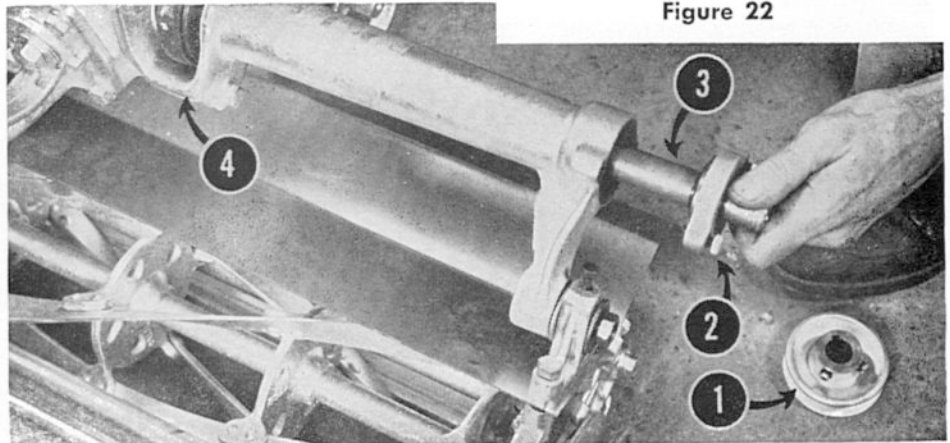

Figure 22
2. Loosen the set screws and remove the Outer Drive Pulley, 1 in Figure 22.
3. Loosen the Bearing Cap Screw, 2 in Figure 22, and pull the Outer Cross Shaft, 3 in Figure 22, out as far as possible so there is room to insert the Inner Wing Drive Pulley and Belt into the opening, 4 in Figure 22.